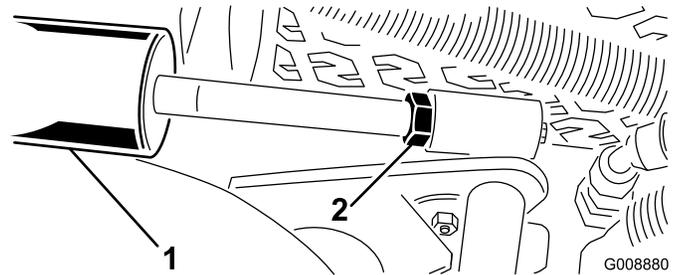

Figure 10
- A. Lower the cutting-units and back off the jam nut on the cylinder (Figure 10).